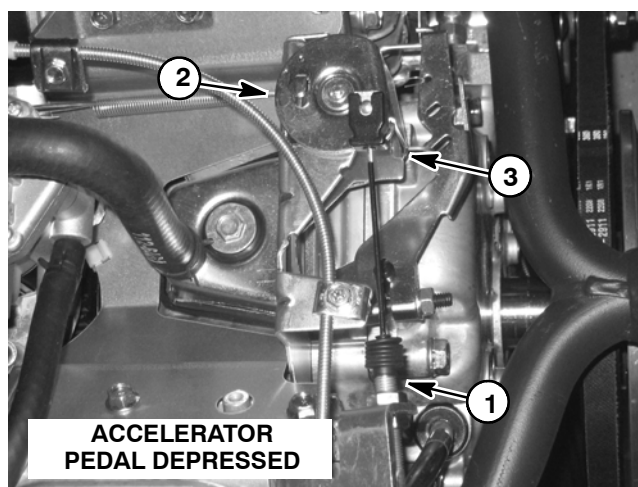

Figure 2
3. When the accelerator pedal is fully depressed the engine governor bellcrank mechanism should have a gap from **0.030" to 0.080" (0.8 to 2.0 mm)** (Fig. 2). If necessary, adjust jam nuts on throttle cable so that gap is correct.